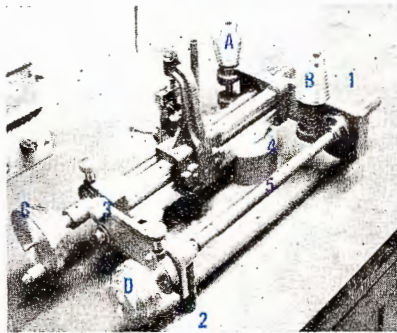
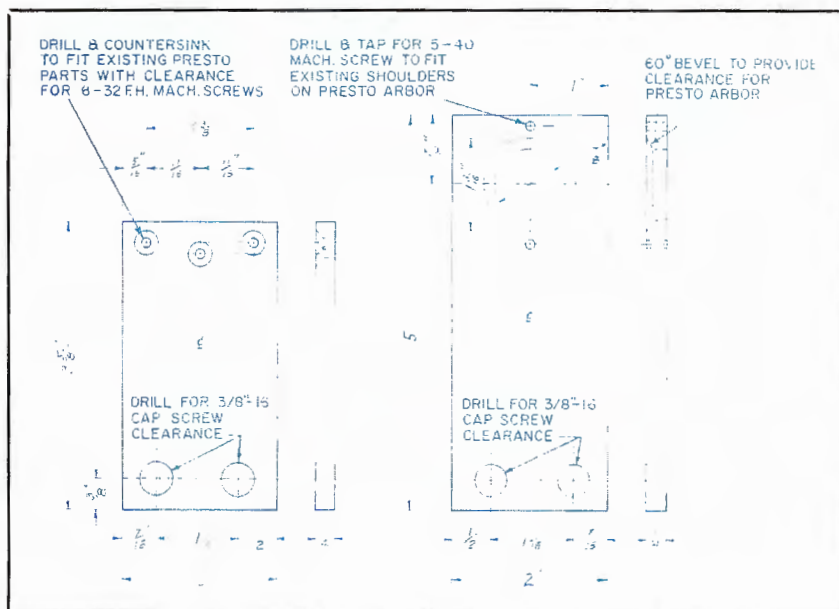

Fig. 1. The modified overhead assembly.
Fig. 2. Dimensional plan view drawings of the inboard and outboard support brackets.
Examination of the completed assembly shown in Fig. 1 will provide a general understanding of the
modification. The two castings that were cut from the old 6N overhead can be seen at points 1 and 2. Note that the worm-gear drive has been removed from the original frame and retained in the added outboard assembly. The flat brackets used to support the rear drive castings are shown at points 3 and 4. The rear shaft (Fig. 1, point 5) is an unused leadscrew, but can, of course, be made from any suitable material (brass or steel, etc.). The configuration of the ratchet-gear hub is such, however, that an old or surplus leadscrew provides the simplest means of driving the outboard pulley. Leadscrews may be obtained from either of the two sources mentioned earlier.
The flange-driven shaft that held the original worm gear is too short to accept the setscrew in the collar of the front 8-step pulley (A), and must be replaced. The old shaft is removed from the driving flange, and a new $\frac{3}{8}$ " shaft 6-5/16" long is pressed into the flange hub and drilled to receive the turntable center spindle. The two 3-step pulleys (Fig. 2) and the two 8-step pulleys are machined from solid brass stock, and the two rear frame support brackets are cut from $\frac{1}{4}$ " brass plate. Rear castings 1 and 2 (Fig. 1) are cut from the used Presto 6N assembly—a hacksaw does the job nicely—and filed smooth for a better appearance.
Care must be taken to center accurately the hole that must be drilled in the lower end of the shaft to receive the turntable spindle. Mate the rear driveshaft and outboard casting, and mount the casting to the support bracket with two 5-40 machine screws (see outboard bracket drawing in Fig. 2). Three-step pulley D (Fig. 1) is pressed onto the 3/16" shaft at the outer end of the rear driveshaft. Pulley C is fastened, in the same manner, to the outer end of the leadscrew after the entire assembly is remounted on the turntable pivotal support.